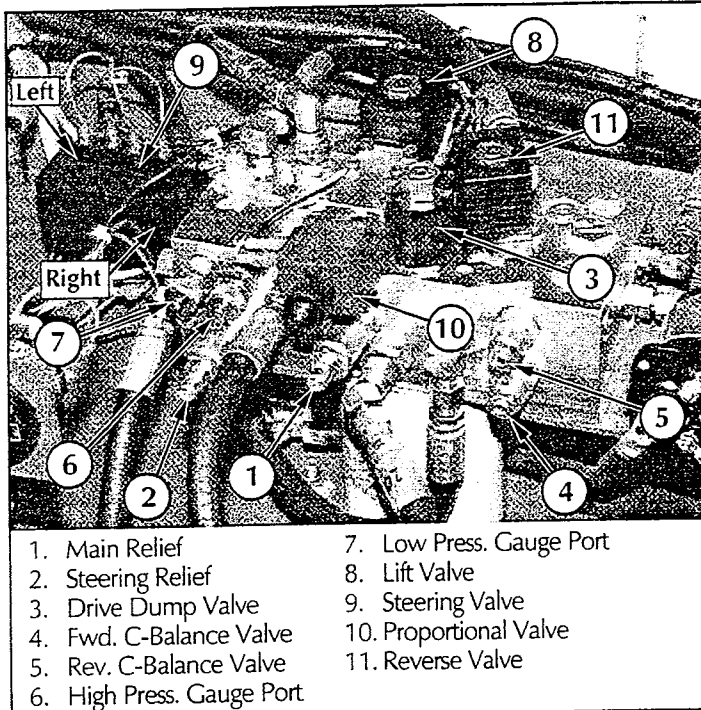

Figure 4-5: Hydraulic Manifold
4.5 Setting Hydraulic Pressures (Figure 4-5)
MAIN RELIEF VALVE (Figure 4-5)